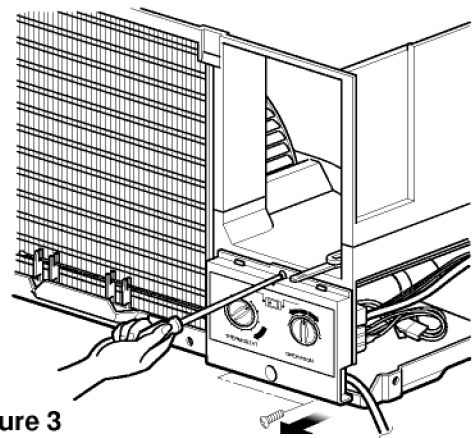

Figure 3
7. Re-install the components by referring to the above removal procedure. (See figure 3)